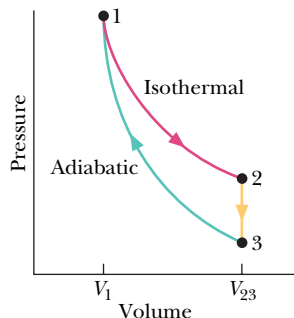

Fig. 20-25 Problem 17.
•17 In Fig. 20-25, where  $V_{23} = 3.00V_1$ ,  $n$  moles of a diatomic ideal gas are taken through the cycle with the molecules rotating but not oscillating. What are (a)  $p_2/p_1$ , (b)  $p_3/p_1$ , and (c)  $T_3/T_1$ ? For path  $1 \rightarrow 2$ , what are (d)  $W/nRT_1$ , (e)  $Q/nRT_1$ , (f)  $\Delta E_{\text{int}}/nRT_1$ , and (g)  $\Delta S/nR$ ? For path  $2 \rightarrow 3$ , what are (h)  $W/nRT_1$ , (i)  $Q/nRT_1$ , (j)  $\Delta E_{\text{int}}/nRT_1$ , (k)  $\Delta S/nR$ ? For path  $3 \rightarrow 1$ , what are (l)  $W/nRT_1$ , (m)  $Q/nRT_1$ , (n)  $\Delta E_{\text{int}}/nRT_1$ , and (o)  $\Delta S/nR$ ?